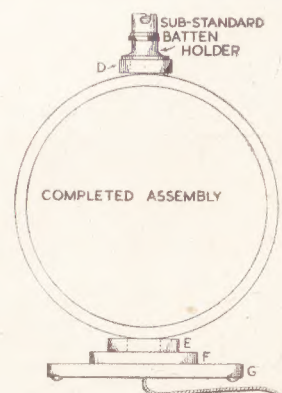

Fig. 5—The whole assembly
The slots in (D) and (E) should then be given a very thin film of glue and the pieces pressed firmly and squarely home (Fig. 5). Piece (F) is glued and secured to (E) by screwing from underneath. (G) is similarly affixed to (F) after fixing the 'button' feet on the former. The wires are, of course, threaded through as the attachments are made.